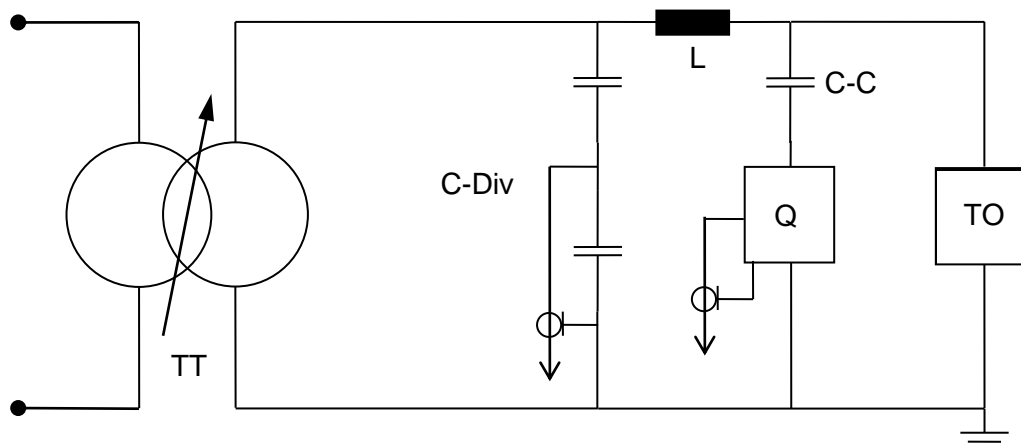

Figure 2: Partial discharge test setup
The cable conductors of the test objects were connected to an AC voltage provided by a test transformer, the screens were put on ground potential (**Figure 2**). The voltage measurement was carried out with a capacitive divider. The measuring uncertainty within a range of 10 kV to 300 kV was 0.91%. For the extraction of the partial discharge (PD) signals, a coupling capacitor and a quadrupole (i.e. measuring impedance) were used. A coil was installed to block interferences coming from the transformer side of the test setup. Prior to the test, the complete test arrangement including the test object was calibrated using a PD-calibrator.
The cable conductors of the test objects were connected to an AC voltage provided by a test transformer, the screens were put on ground potential (**Figure 2**). The voltage measurement was carried out with a capacitive divider. The measuring uncertainty within a range of 10 kV to 300 kV was 0.92%. For the extraction of the partial discharge (PD) signals, a coupling capacitor and a quadrupole (i.e. measuring impedance) were used. A coil was installed to block interferences coming from the transformer side of the test setup. Prior to the test, the complete test arrangement including the test object was calibrated using a PD-calibrator. The test objects were installed in a way that a closed loop was formed, which could be heated using an induced AC current provided by a heating transformer supplied by a variable transformer. The cable should be heated to a conductor temperature 5 - 10 K above the maximum cable conductor temperature in operation, i.e. 95 - 100°C for XLPE-cables. The temperature of the cable conductor was measured in-line using a reference cable of the same type as the test loops with a length of 3 m, a type K thermocouple and fibre optical temperature measurement transmission systems. The current was measured by a clamp meter.